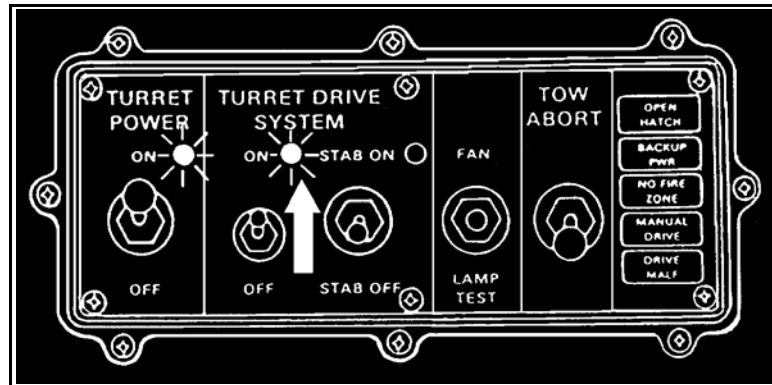

Figure 2. Turret drive system switch and indicator light.
3. Move the turret drive system switch to ON (Figure 2, page 3-220).